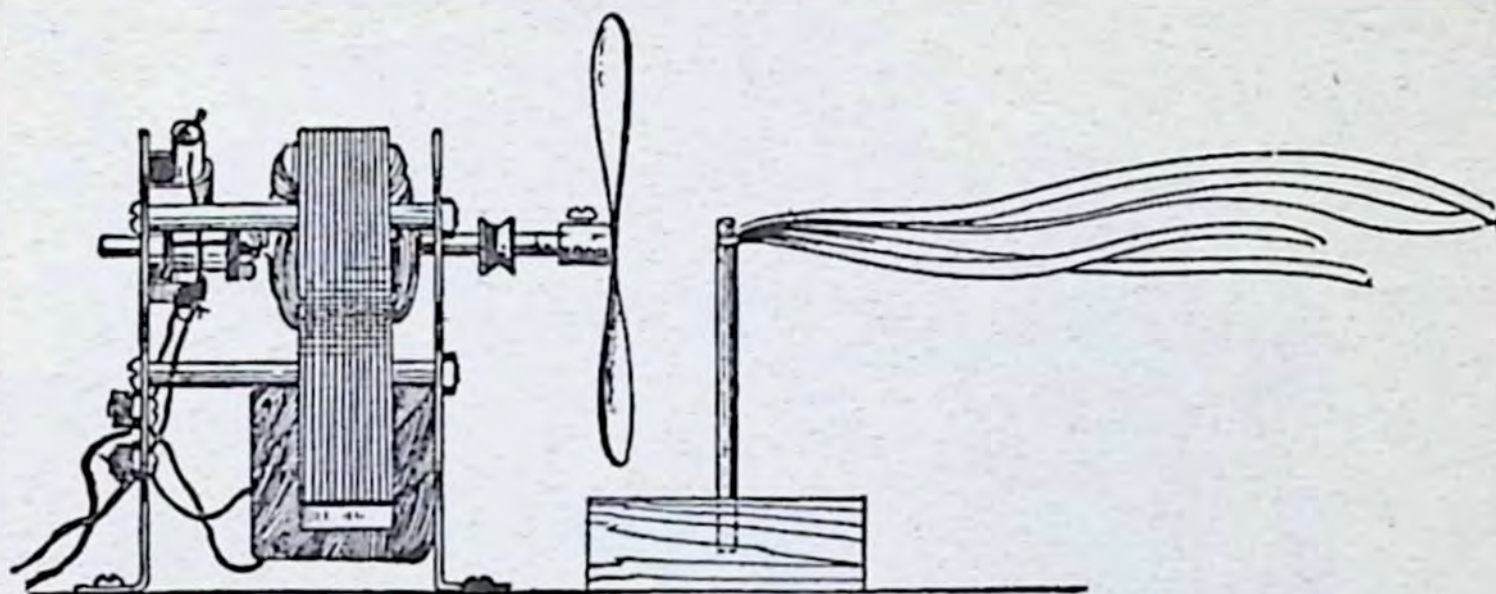

Fig. 39
(45) **THE BREEZY RIBBONS:** Mount a wire in a wood block, as shown in Fig. 39, and fasten three or four tissue-paper ribbons about 5 inches long to it. Set it in front of the fan and start the motor running, when the breeze set up will blow the ribbons straight out and keep them floating in the air.